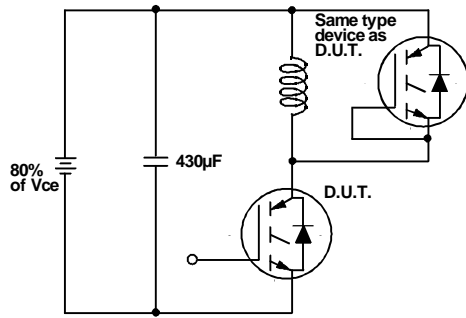

Fig. 18a - Test Circuit for Measurement of I_{LM} , E_{on} , $E_{off(diode)}$, t_{rr} , Q_{rr} , I_{rr} , $t_{d(on)}$, t_r , $t_{d(off)}$, t_f
- Fig. 18e - Macro Waveforms for Test Circuit of Fig. 18a